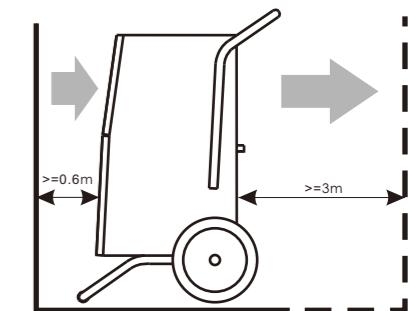

FIG.2
- In order to get the best efficiency, the suggested minimum distances of both air suction and discharge sides from walls are 0.6 and 3m respectively (See FIG.2).